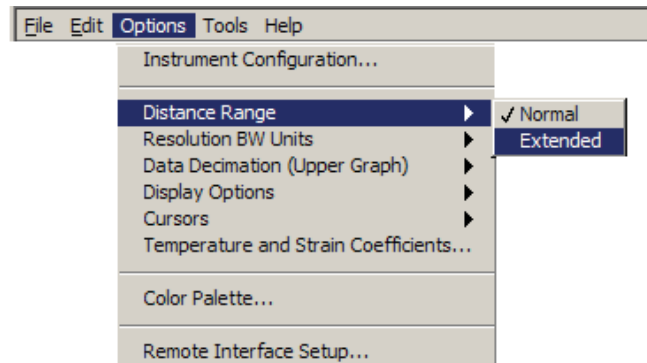

Figure 5: Navigation to normal/extended measurement settings
- d) In order to make measurements of networks longer than 70 m, the instrument will need to be configured to the ‘*Extended Range*’ mode of operation. To accomplish this, on the tool bar navigate to: ‘*Options->Distance Range-> Extended*’ (see Figure 5 below).